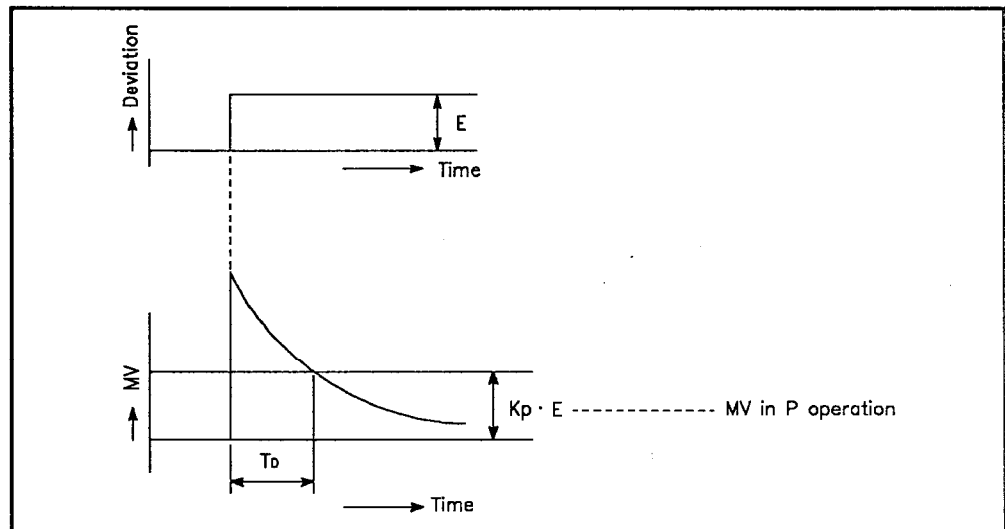

Fig. 4.4 Differentiating Operation with Constant Deviation
- (2) The time required for the MV in the differentiating operation to reach the MV for the proportionate operation after the generation of deviation is called the differentiating time. Differentiating time is expressed as T_D . The smaller the setting for T_D , the more effective the differentiating operation will be.
- (3) The differentiating operation in step response with a constant E (deviation) is illustrated in Fig. 4.4.